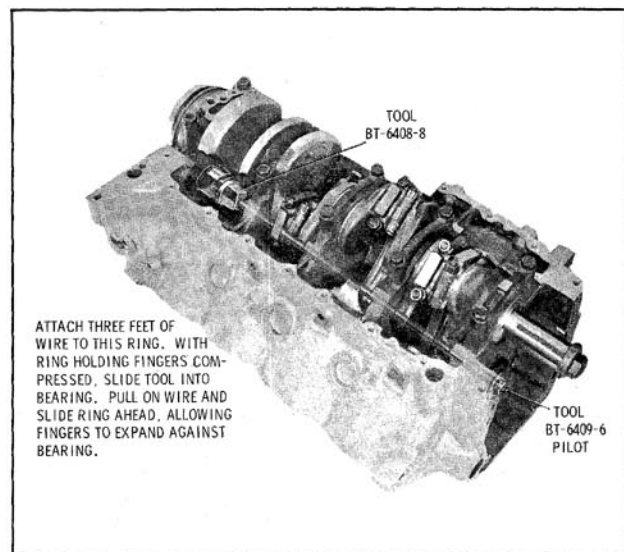

Fig. 3-95 Removing Rear Cam Bearing
4. To remove #5 bearing with engine in chassis, use puller BT-6409-8 as shown in Fig. 3-95.